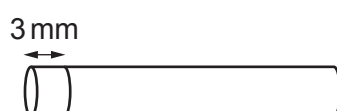

Fig. 1.1
- Step 3 Put the potato cylinders onto a white tile and cut each potato cylinder into 3 mm discs, as shown in Fig. 1.1. You will need 30 potato discs.